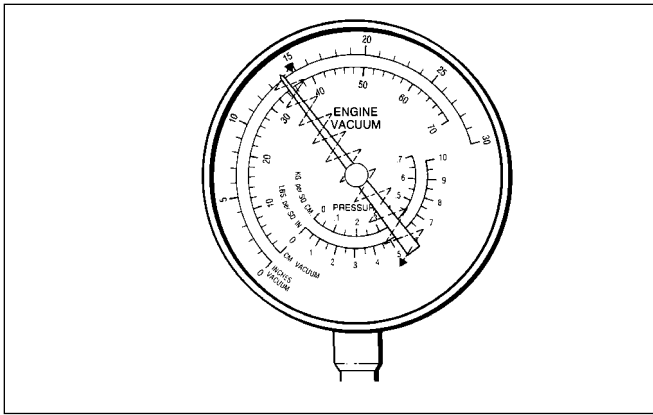

Fig. 1-10. Incorrect fuel mixture. Oscillating needle, low reading.
- An **oscillating** needle 1 or 2 inches below normal could indicate an incorrect fuel mixture, figure 1-10